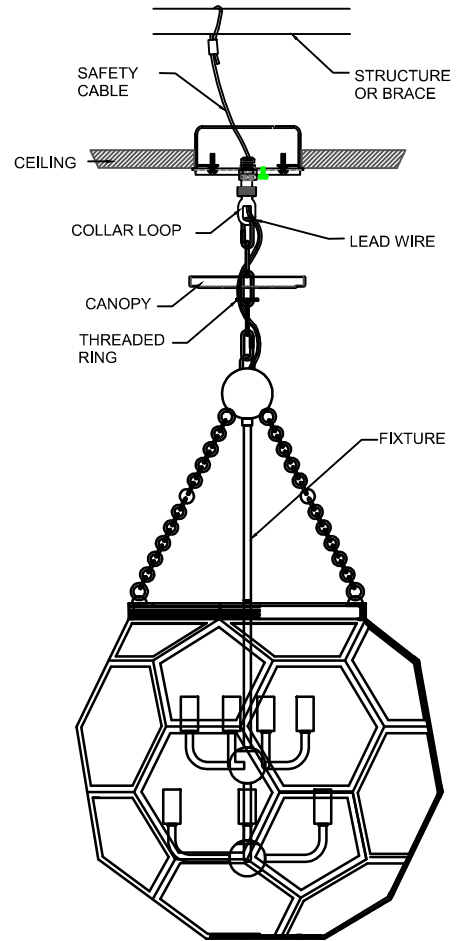

FIGURE-04
5. Attach the chain to the collar loop on the canopy using a quick link chain. Determine the desired height of the fixture and remove excess chain link. Hang the fixture on the end of the chain link using a quick link chain. Run the lead wires & safety cable to the chain link up to the canopy. Unscrew the threaded ring from the collar loop. Allow the ring and canopy to slide down the chain to the top of the fixture. (See Figure -04)
6. Attach the Safety cable to the building or structure or brace. (See Figure-04)